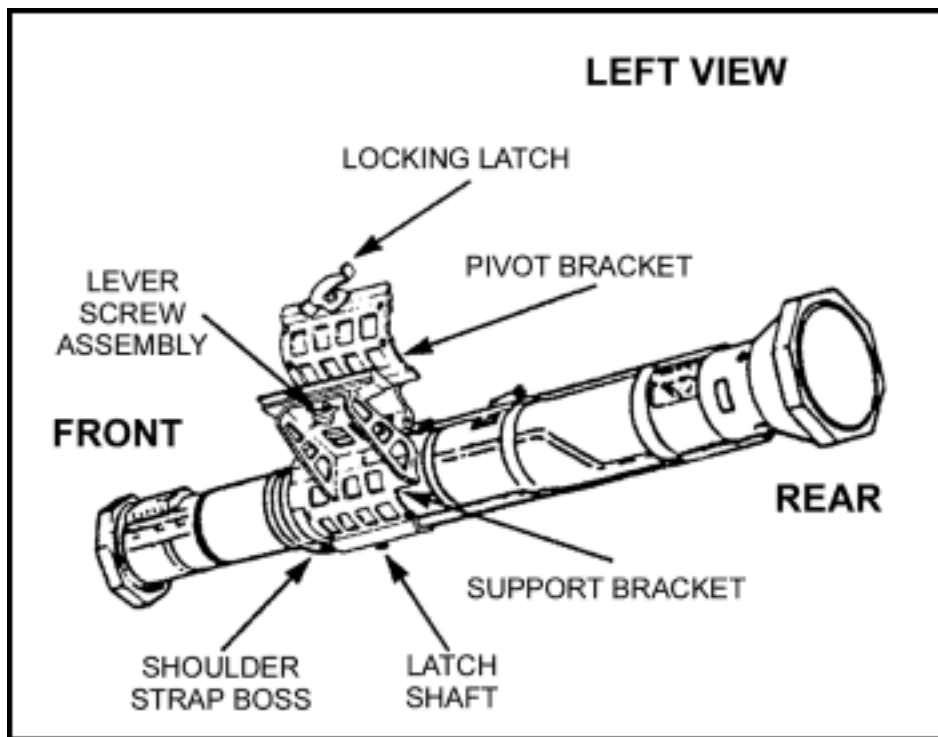

Figure F-2. M136 (AT4) installation.
(1) **M136 (AT4) Launcher and Cartridge Mounting Procedures.** The aiming light is attached to the M136 (AT4) launcher and cartridge by first attaching the mounting bracket to the weapon and then attaching the aiming light to the mounting bracket (Figures F-2 and F-3).
(f) Place the bracket adapter (Figure F-2) in groove of the mounting rail so that the threaded screw hole in the base of the adapter is aligned with the lever screw assembly and tighten the lever screw.